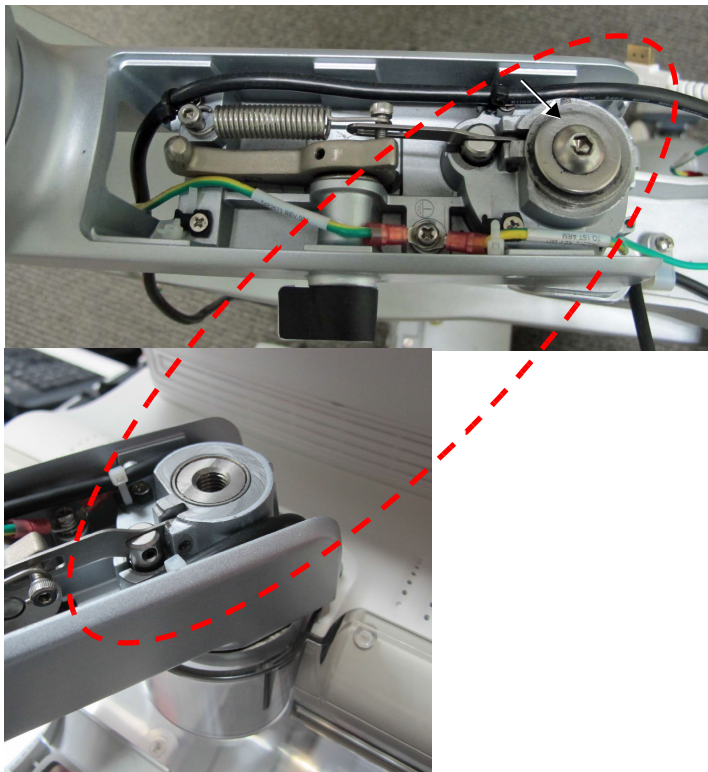

Figure 8-232 Monitor Articulated Arm Securing Bolt (showing washers at right)
- 1) Using the appropriate Allen key unscrew and remove the articulated arm securing bolt shown in Figure 8-232.